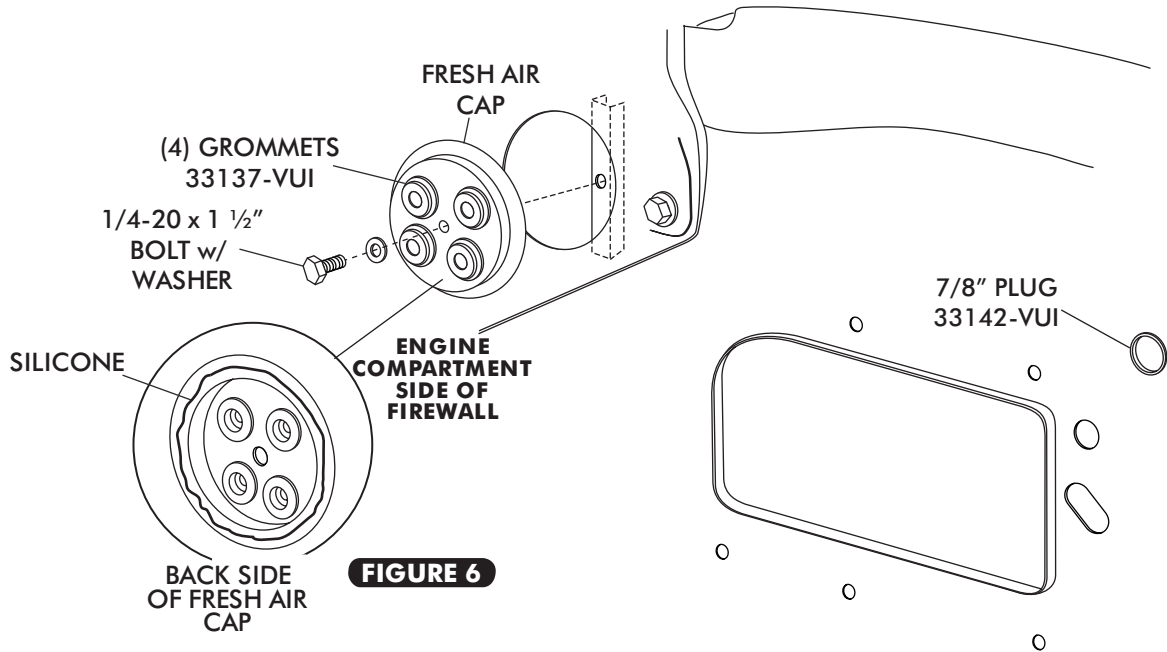

FIGURE 6
- INSTALL 7/8" PLUG IN OEM HOLE ON FIREWALL. SEE FIGURE 6.
- INSTALL (4) GROMMETS IN FRESH AIR CAP. SEE FIGURE 6, BELOW.
- APPLY A 1/4" BEAD OF SILICONE AROUND THE BACK SIDE OF THE FRESH AIR CAP AS SHOWN IN FIGURE 6, BELOW.
- ATTACH FRESH AIR CAP TO FIREWALL USING A 1/4-20 x 1 1/2" BOLT AND WASHER, SEE FIGURE 6 BELOW. **NOTE: FRESH AIR CAP INSTALLS ON ENGINE SIDE OF FIREWALL.**